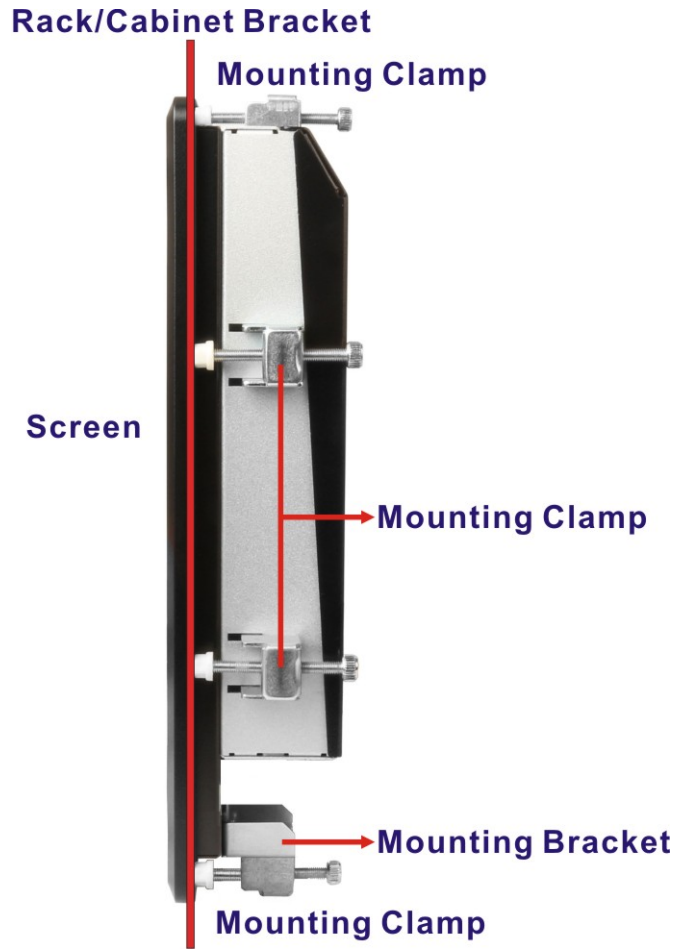

Figure 3-29: Secure the Rack/Cabinet Bracket
Step 3: Insert the mounting clamps into the mounting brackets and pre-formed holes along the edges of the PPC-FxxA-H81, behind the aluminum frame (**Figure 3-29**). The required number of mounting clamps may vary by models.
Step 4: Tighten the screws that pass through the mounting clamps until the plastic caps at the front of all the screws are firmly secured to the bracket (**Figure 3-29**).